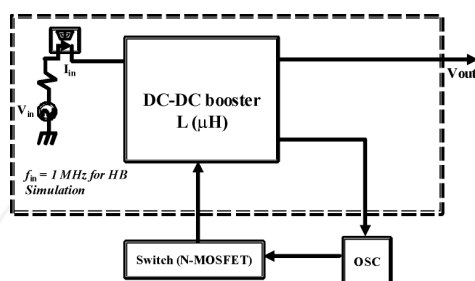
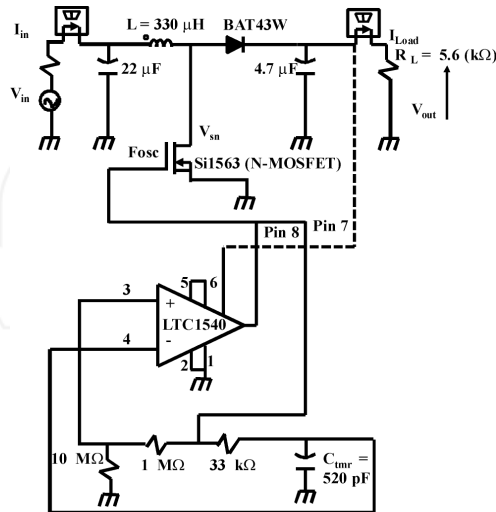
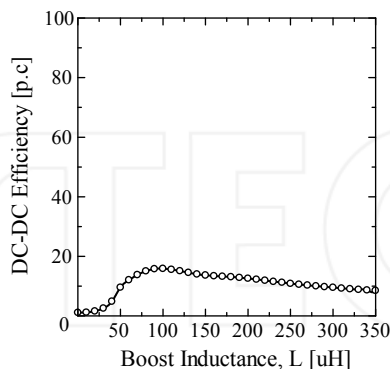

Fig. 20. Boost converter concept.
Fig. 21. The proposed boost converter circuit diagram. Designed in Agilent's ADS and fabricated for investigation by measurement.
Fig. 22. Boost inductance variation with DC-DC conversion efficiency for a  $5.6\text{ k}\Omega$  load.
The DC-DC boost converter design theory and actual implementation are presented in this section. The inequality  $V_{in} \ll V_{out}$  defines the boost operation. In this Chapter, our boost converter concept is illustrated in Fig. 20. A small voltage,  $V_{in}$  is presented at the input of the boost converter inductive pump which as a result, generates some output voltage,  $V_{out}$ . The output voltage is feedback to provide power for the oscillator. The oscillator generates a square wave,  $F_{OSC}$  that is used for gate signalling at the N-MOSFET switch.
The drain signal of the N-MOSFET is used as the switch node voltage,  $V_{sn}$  at the anode of the diode inside the boost converter circuit block. From the concept presented in Fig. 20, the actual implemented circuit is shown in Fig. 21. The circuit was designed in Agilent's ADS and fabricated for investigation by measurement.
The circuit in Fig. 21 is proposed for investigation. Since a DC-DC boost converter is supposed to connect to the rectenna's output, it therefore, becomes the load to the rectenna circuit. This condition demands that the input impedance of the boost converter circuit emulates the known optimum load of the rectenna circuit. This has the benefit of ensuring
where  $L$  is the inductance equal to 330 $\mu$ H as shown in Fig. 20,  $M = \frac{V_{out}}{V_{in}}$ ,  $T$  is the period of  $F_{OSC}$ ,  $t_1$  is the switch "ON" time for the N-MOSFET, and  $k$  is a constant that according to [3] is a low frequency pulse duty cycle if the boost converter is run in a pulsed mode and typically,  $k$  may assume values like 0.06 or 0.0483. With reference to (7), we select  $L$  as the key parameter for higher conversion efficiency while  $V_{in} = 0.4$  V DC is selected as the lowest start up voltage to achieve oscillations and boost operation. Computing the DC-DC boost conversion efficiency against different values of  $L$ , we have results as shown in Fig. 22.
Another factor, which affects the overall conversion efficiency is the power lost in the oscillator circuit. Unlike the circuit proposed in [9], which uses two oscillators; a low frequency (LF) and high frequency (HF) oscillator; in Fig. 21, we have attempted to use a single oscillator based on the LTC1540 comparator, externally biased as an astable multivibrator.
To confirm whether or not the circuit of Fig. 21 works well, we did some measurements and compared them with the calculated results. Unlike in calculation (simulation), during measurement,  $L = 330\mu\text{H}$  was used due to availability. All the other component values remain the same both in calculation and measurement. In Fig. 25 (left side graph) and (right side graph), we see in general that the input voltage is boosted and also that the patterns of  $F_{\text{osc}}$  and  $V_{\text{sn}}$  are comparable both by simulation and measurement. To control the duty cycle of the oscillator output ( $F_{\text{osc}}$ ), and the level of ripples in the boost converter output voltage ( $V_{\text{out}}$ ), we change the value of the timing capacitance,  $C_{\text{tmr}}$  in the circuit of Fig. 21. Simulations in Fig. 25 (left side graph) show that  $C_{\text{tmr}} = 520\text{pF}$  realizes a better performance i.e. nearly constant  $V_{\text{out}}$  level (very low ripple).
At least 11.3% DC-DC conversion efficiency was recorded by measurement and is comparable to the calculation in Fig. 22. During measurement it was clearly revealed that the boost converter efficiency does depend on the value of  $L$  and the duty cycle derived from  $t_1$ . To efficiently simulate the complete circuit, from the RF input to the DC output, envelope transient simulation (ENV) in Agilent's ADS was used. The (ENV) tool is much more computationally efficient than transient simulation (Tran). This simulation is appropriate for the boost converter circuit's resistor emulation task. Moreover, the boost converter's DC-DC conversion efficiency, and the overall RF-to-DC conversion efficiency can be calculated at once with a single envelope transient simulation.